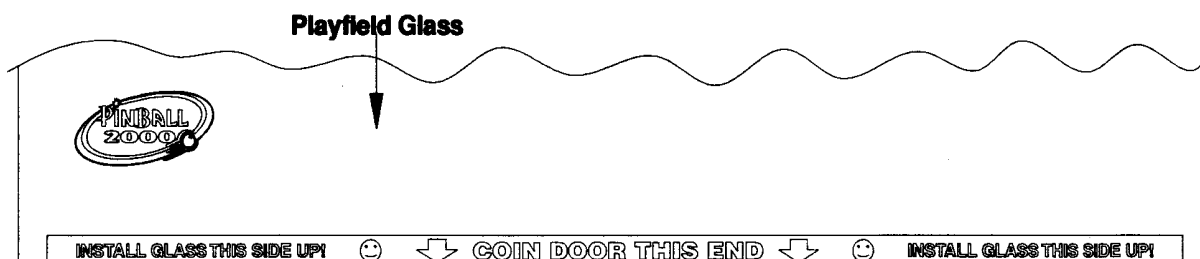

FIGURE 12
16. Replace the playfield glass. Be sure that the PINBALL 2000 logo is in the lower left corner. See Figure 12 below. Snap the front molding securely into place. Close and lock the coin door.